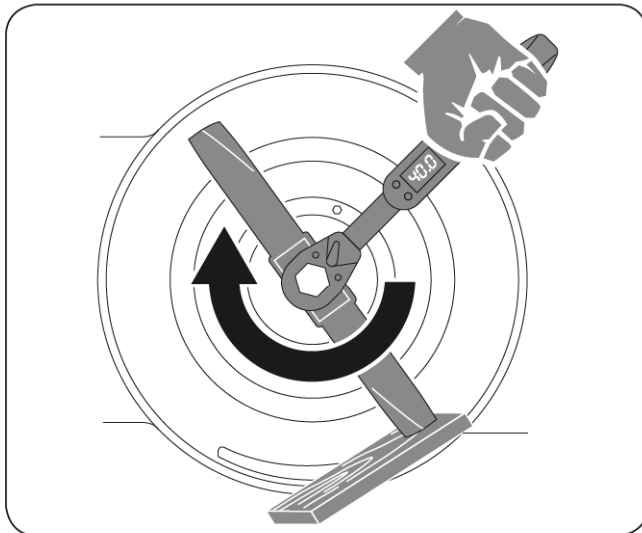

Figure 18
3. Install the new blade. Use a block of wood between the blade and lawn mower housing and tighten the blade bolt, turning clockwise. The recommended tightening torque is 25.8-29.5 ft.-lb. (35-40 Nm). (See Figure 18)